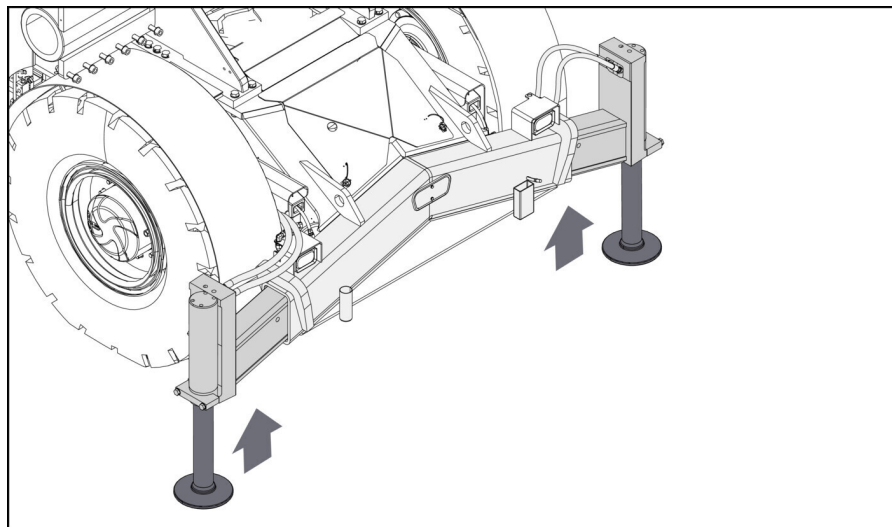

Figure 21A
16. Retract the front and rear support legs to lower the machine onto the ground (Figures 21A and 21B).